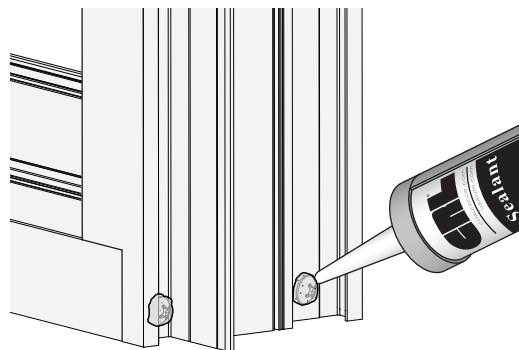

FIG. 3
5. Seal over heads of screws using **Cat. No. RTV408** or **Cat. No. 33S** sealant. (FIG. 3)